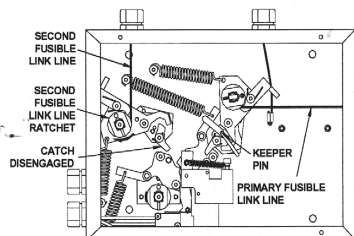

Figure 11.
1. The secondary detection line will enter the enclosure from the top left knock out as shown in Figure 11.